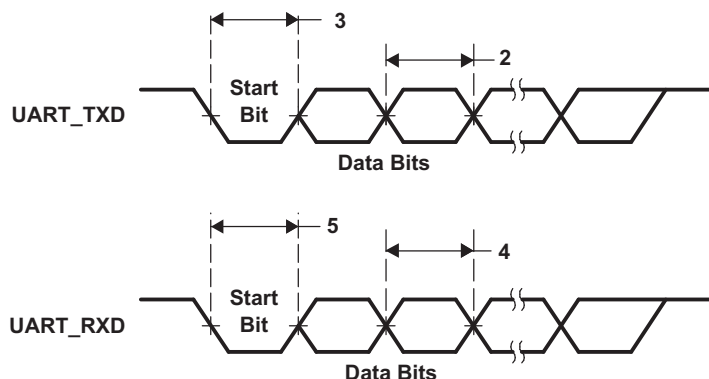

Figure 5-28. UART Transmit/Receive Timing
Table 5-31. Timing Requirements for UART Receive(1)(2) (see Figure 5-28)
- (1) U = UART baud time = 1/programmed baud rate.
- (2) These parametric values are measured at DVDDIO = 3.3 V, 2.75 V, and 2.5 V
Table 5-32. Switching Characteristics Over Recommended Operating Conditions for UART Transmit(1) (2) (see Figure 5-28)